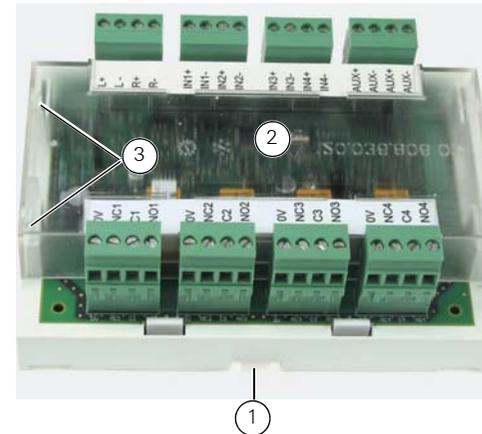

Fig. 1: QIO850 Quad Input/ Output Module
Figure 1 shows the QIO850 Quad Input/Output Module, part number 555.800.071.
To remove the clear plastic cover, release each of the four locking tabs in turn (see item 3 in Figure 1). Use a screwdriver to press the tab inwards, while pulling upwards on the cover.